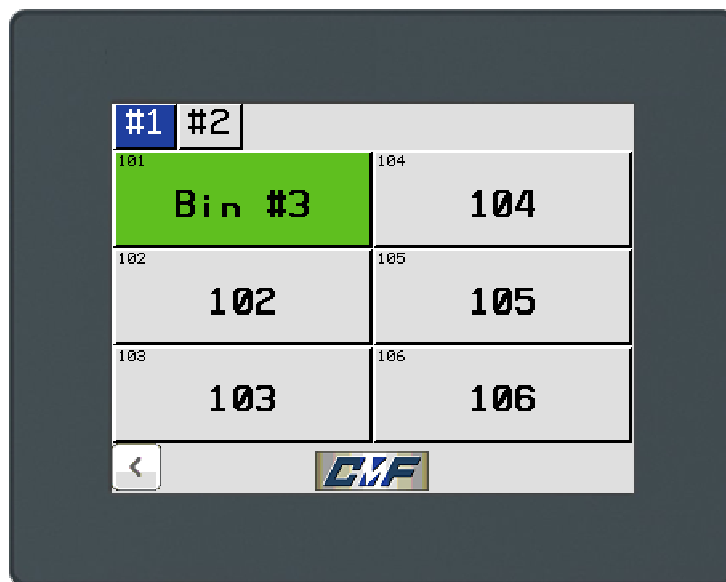

Fig. 6: Outlet Selection screen
- 3.3.2 From the “Outlet Selection” screen (Fig. 6), choose the outlet number that the spout should move to and **press the button for at least 1 second**. *This delay acts as an interlock to keep from accidentally changing the outlet.* After the button is pressed, the “moving” indicator will appear on the screen. When the inner spout has reached its destination, the button for the corresponding outlet will turn green and the “moving” indicator will disappear.